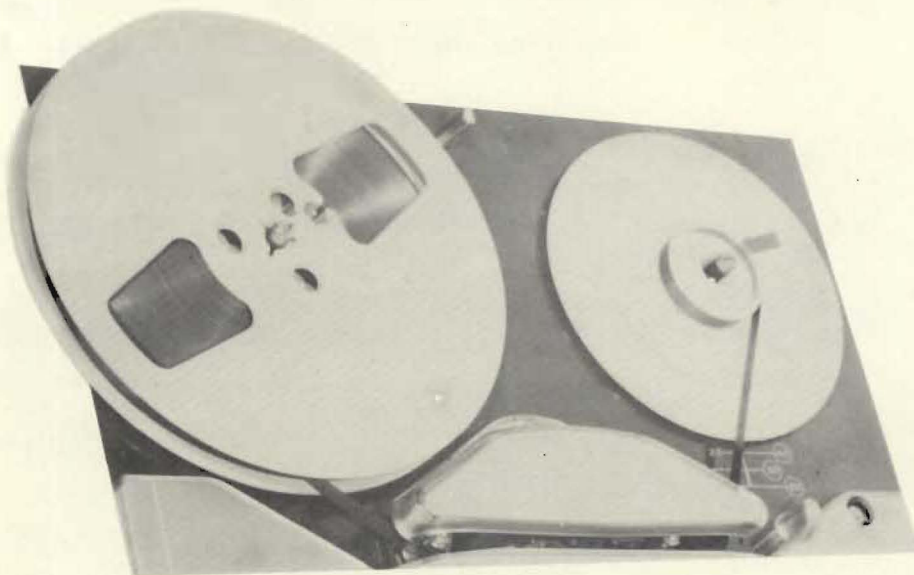

Figure 6.
- E. Thread Tape past Recorder Head and manually wind tape two turns around Hub of Magazine Disc, allowing 1 inch of tape end to extend above Loop. (See Figure 6).